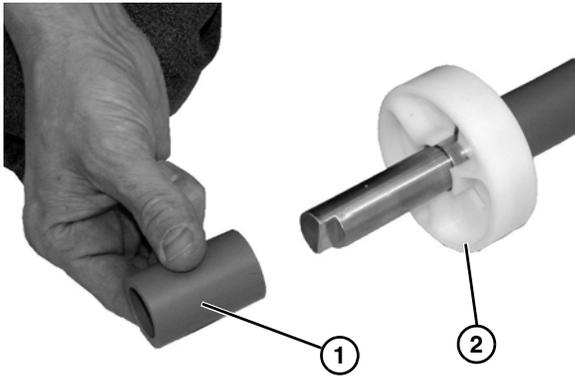

Figure 37
- Slide off the round puck spacer (Figure 37, item 1).
- Slide off puck and replace (Figure 37, item 2).